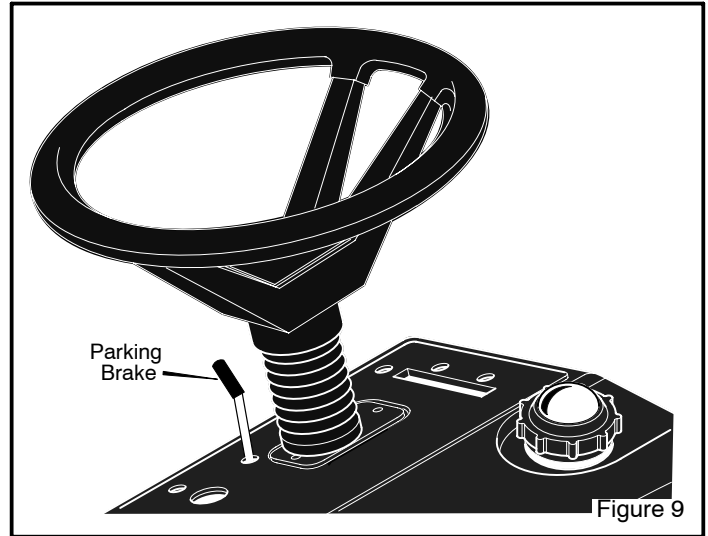

Figure 9
2. Lift the **parking brake lever** (Figure 9).